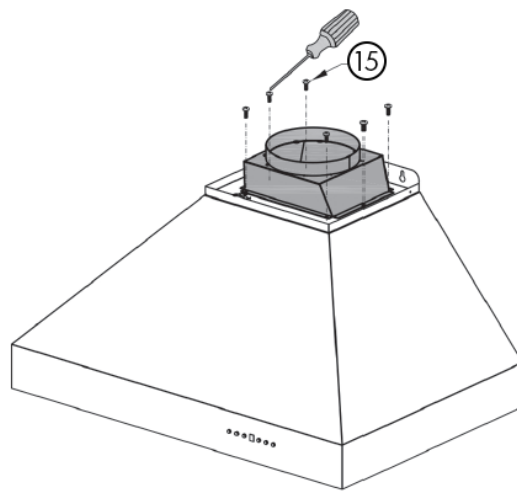

Figure 4
5. Install the transition piece on top of the range hood by securing it with screws (Item No. 15) provided. Some hoods require 4 screws, others require 6. **NOTE:** In some models, the transition piece will already be installed. *Figure 4*